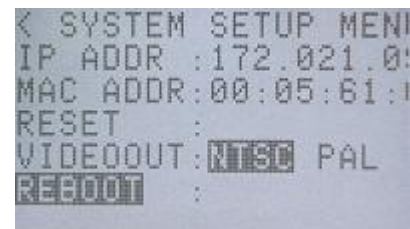

Figure 5-26 REBOOT
- 5) Use the arrows   to select "REBOOT" and press SET  (Figure 5-26).